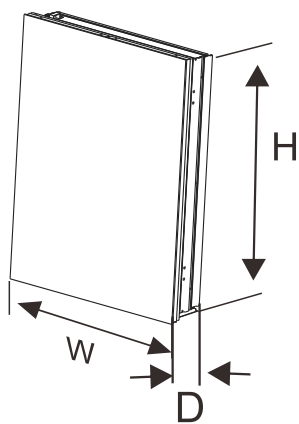

Fig. 14
- 1.7 Measuring the wall size of the cabinet (Fig.14)